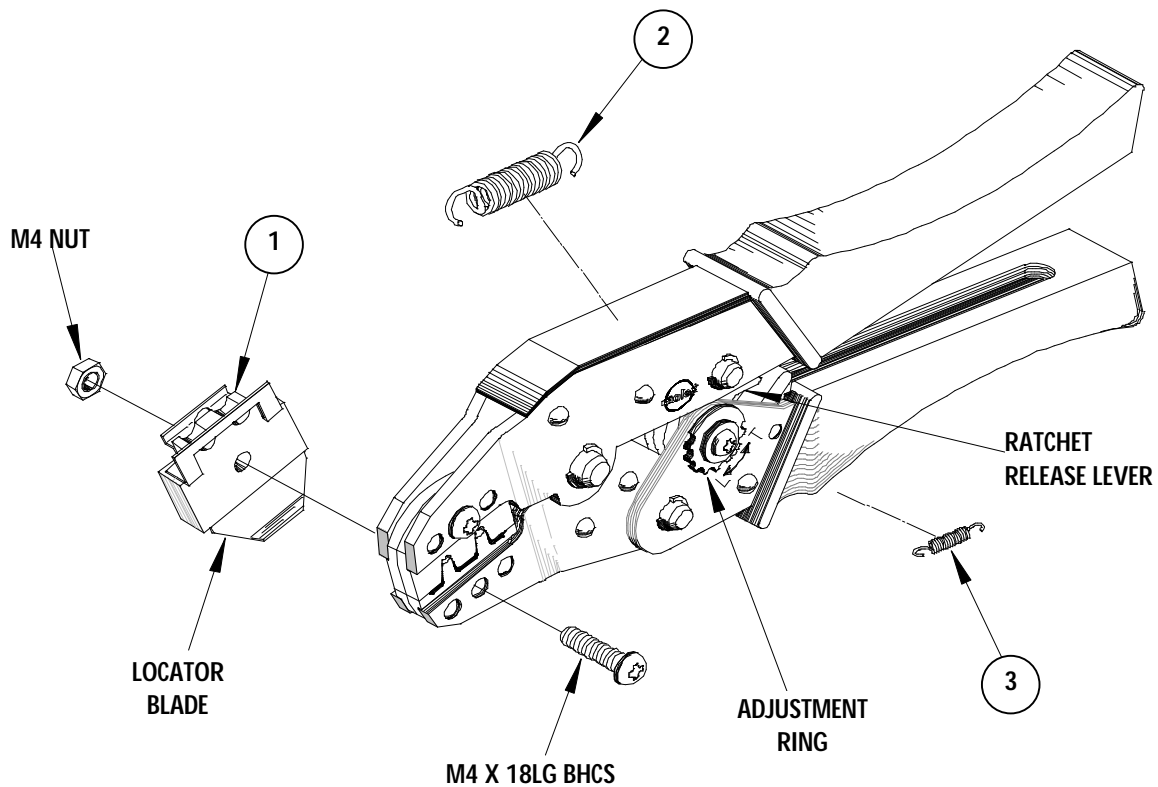

Figure 4
Should this tool ever become stuck or jammed in a partially closed position, **Do Not force the handles open or closed**. The tool will open easily by lifting the ratchet release lever (See Figure 4).
4. Close the tool until the ratchet releases, (See Figure 4).
How To Adjust Tool Crimp Force (See Figure 4)